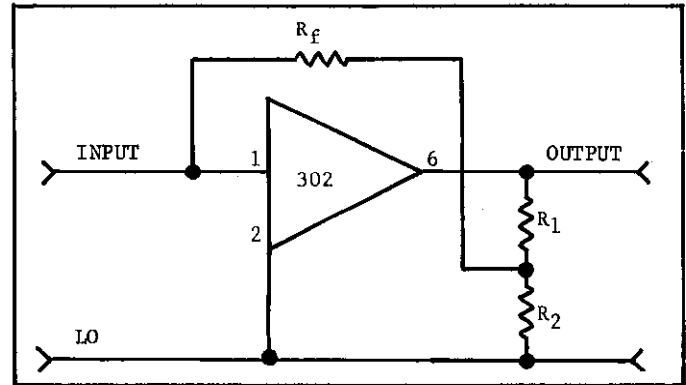

FIGURE 5. Linear Amplifier With Fractional Feedback.
b. Linear Current Amplifier With Fractional Feedback. In this configuration, the feedback resistor R_f is connected between the Input (Pin 1) and a divider composed of R_1 and R_2 as shown in Figure 5. The value of R_1 and R_2 should be selected such that $R_1 + R_2$ is .01 times the value of R_f (that is, the divider current should be large compared to the current to be measured). Since the output current must be limited to 5 milliamperes or less, the output load R_L (in parallel with $R_1 + R_2$) should be $2k\Omega$ or greater.